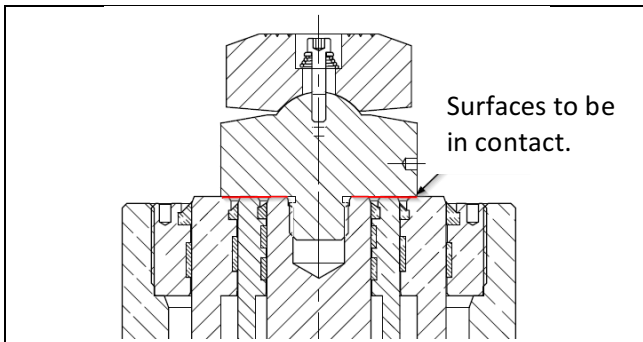

Figure 3, RT-Series Tilt Saddle (typical)
To check that the tilt saddle base is properly installed, proceed as described in the following steps. Refer to Figure 3 for assembly details.
2. Rotate the tilt saddle clockwise several turns, until the tilt saddle base is fully installed in the plunger bore and mating surfaces are making solid contact. See Figure 3.